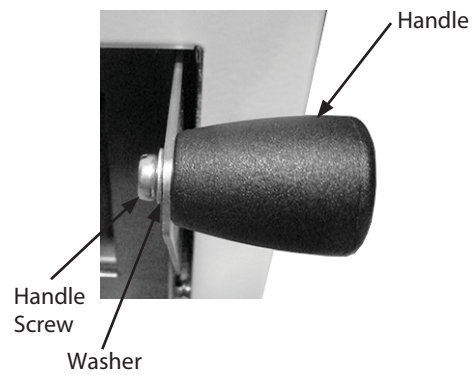

Figure 5: Handle Installed
5. Attach the handle to the bracket using the provided screw and washer (Figure 5).